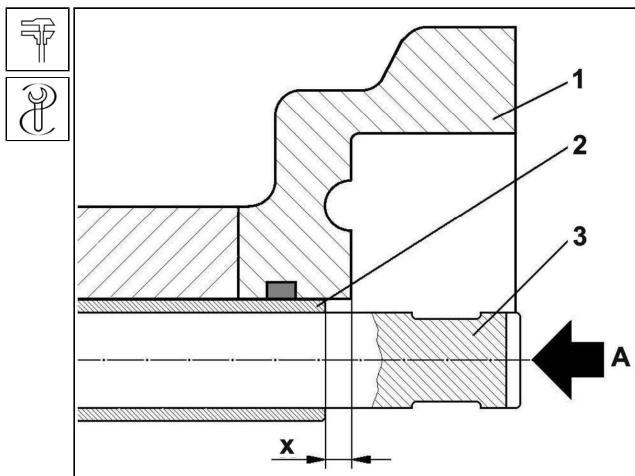

Fig. 4.8 Shift bar bush
13. Use the driver to knock the bush **2** (See Fig. 4.8) (being滑ed on the shift bar **1**) in position as far as it goes what means that the shift sleeve comes to bear against major drive gear - the high gear will be shifted.